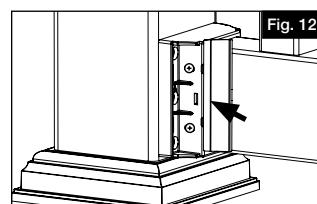

Fig. 12
- Match letter on inside of bracket cover to the letter on bracket, and snap cover in place (Fig. 12). Repeat for all brackets.